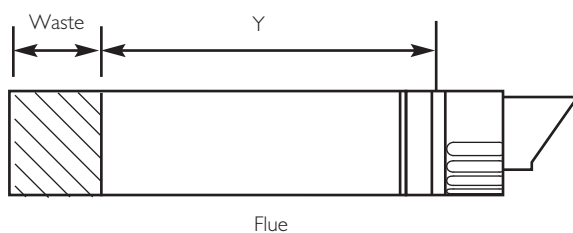

Fig. 35
5. Mark dimension 'Y' on the flue as shown (Fig. 35). Carefully cut the waste material from the flue, ensuring that the ducts are square and free from burrs.